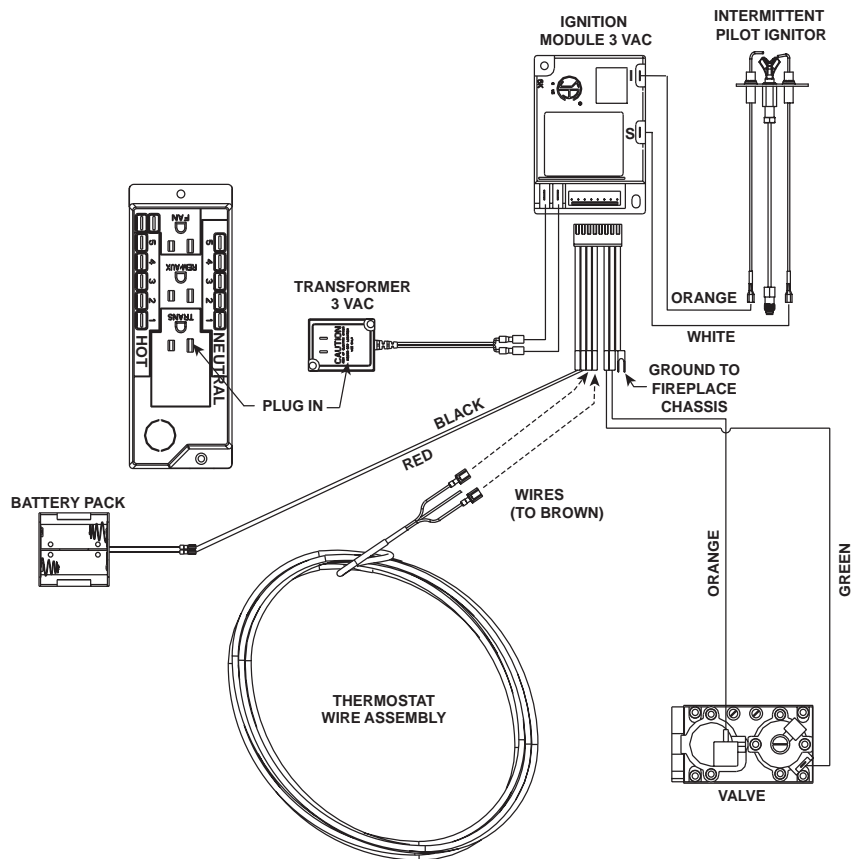

Figure 12.2 Intellifire Ignition Wiring Diagram with Wall Switch or Thermostat
- Refer to Figure 12.2 and Figure 12.3, Intellifire Pilot Ignition (IPI) Wiring Diagrams.